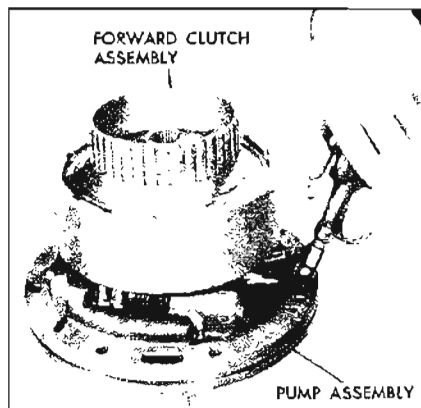

Figure 5-622
11. Place forward clutch housing on pump delivery sleeve and air check clutch operation. See Figure 5-622.